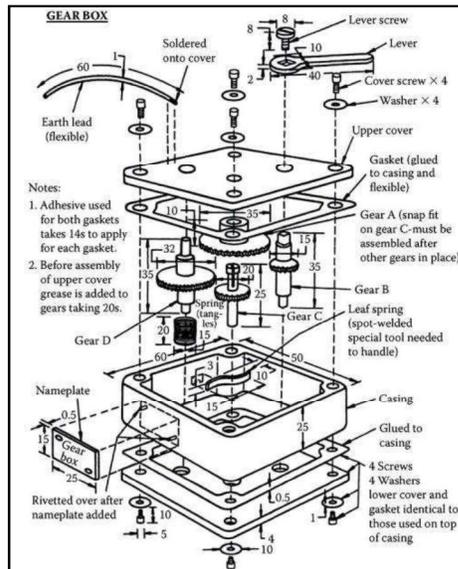

Figure 5
3. Suggest suitable assembly processes and appropriate tools for the gear box assembly as shown in figure 5. Identify the expected bottleneck operation in this assembly and predict the estimated time for the same.